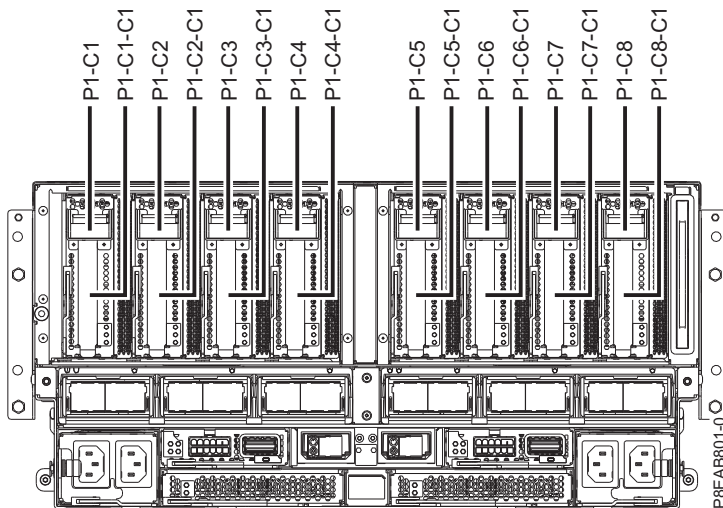

Figure 13. PCIe adapter slot locations in the system
1. Determine the slot in which you want to install a PCIe adapter. The PCIe adapter slots are at the rear of a system. Figure 13 shows the PCIe adapter location codes.